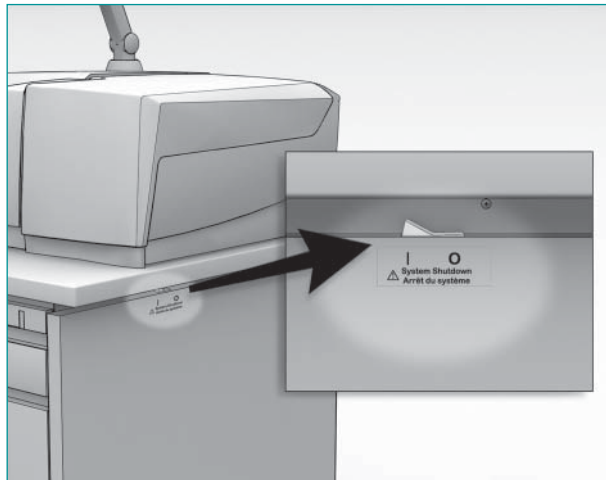

Figure 9: The System Shutdown switch of the Genome Sequencer FLX Instrument
- 2 When the screen goes black, flip the instrument’s main power switch to the Off position (see Figure 9, below).
In a **SEVERE EMERGENCY** (fire, flood, etc.), you can immediately cut off power to the system by using the **SYSTEM SHUTDOWN SWITCH** (“Arrêt du système”) on the **RIGHT HAND SIDE OF THE INSTRUMENT** (Figure 9). Complete shut off of the instrument occurs approximately 5 seconds after you flip the switch, due to the powering down of the UPS.